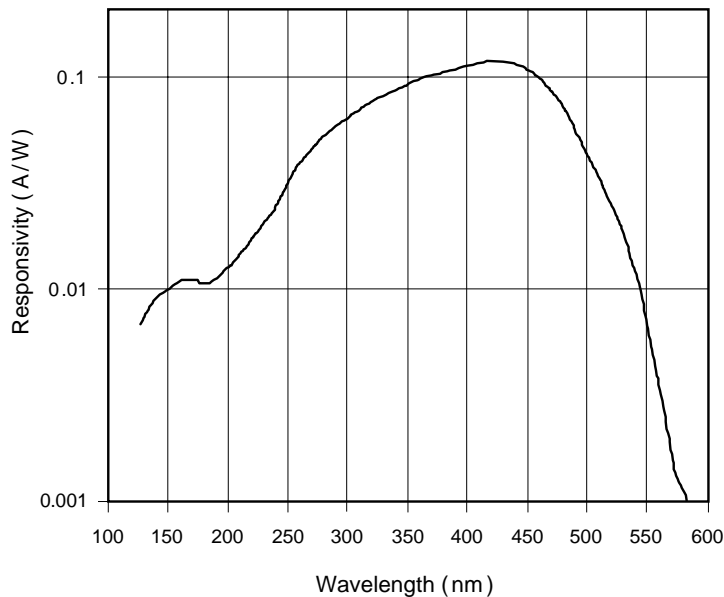

Fig. 1: Spectral Responsivity of SM05PD7B Mounted GaP-Photodiode
The Thorlabs SM05PD7B Mounted GaP-Photodiode is ideal for measuring both pulsed and CW light sources, by absorption of photons or charged particles and generate a flow of current in an external circuit, proportional to the incident power. The photodiode anode produces a current, which is a function of the incident light power (P) and the wavelength (λ). The responsivity Rλ, can be read from Fig. 1 to estimate the amount of photocurrent to expect. This can be converted to a voltage by placing a load resistor (RL) from the photodiode anode to the circuit ground. The output voltage is derived as: